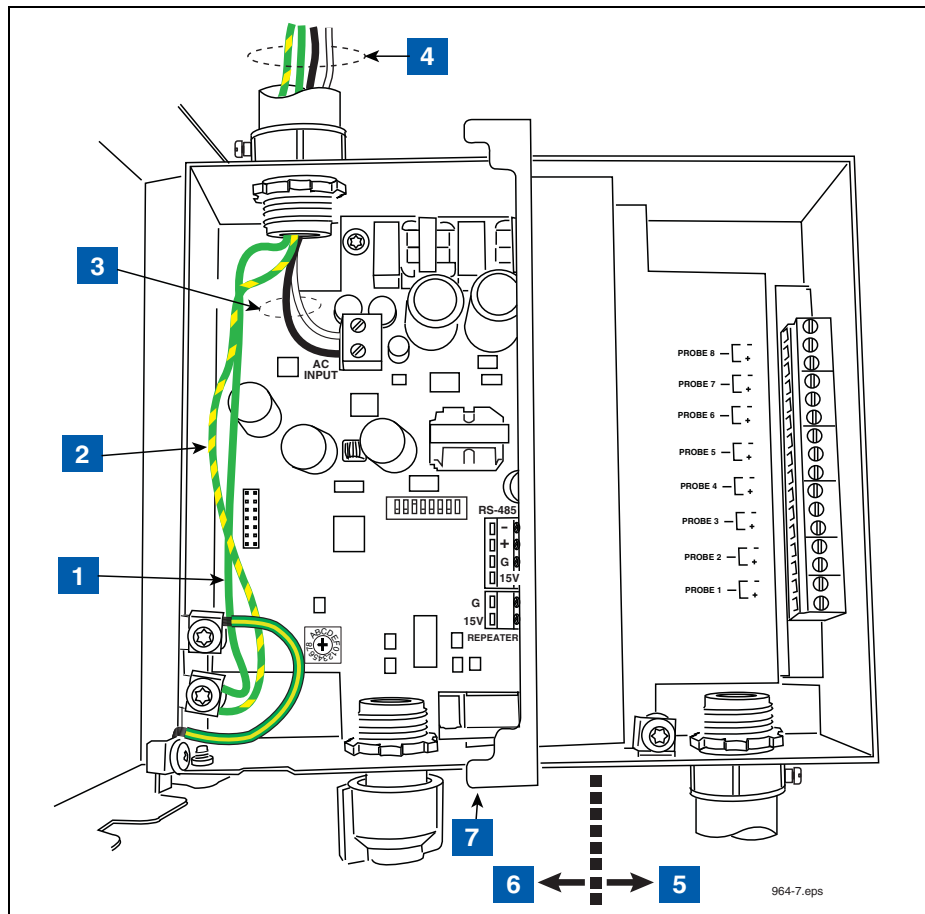
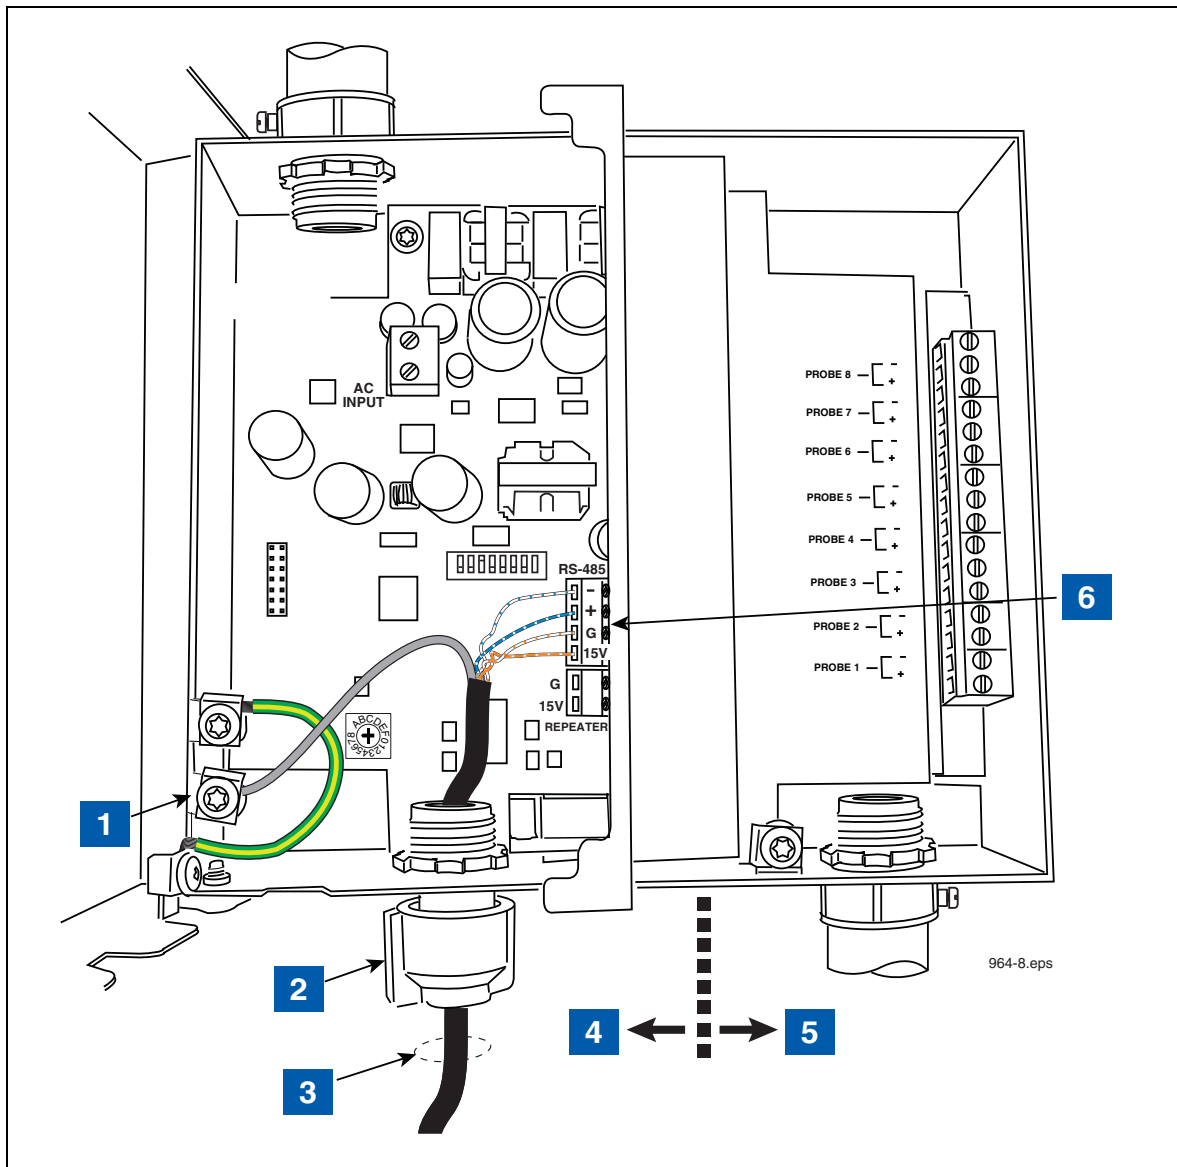
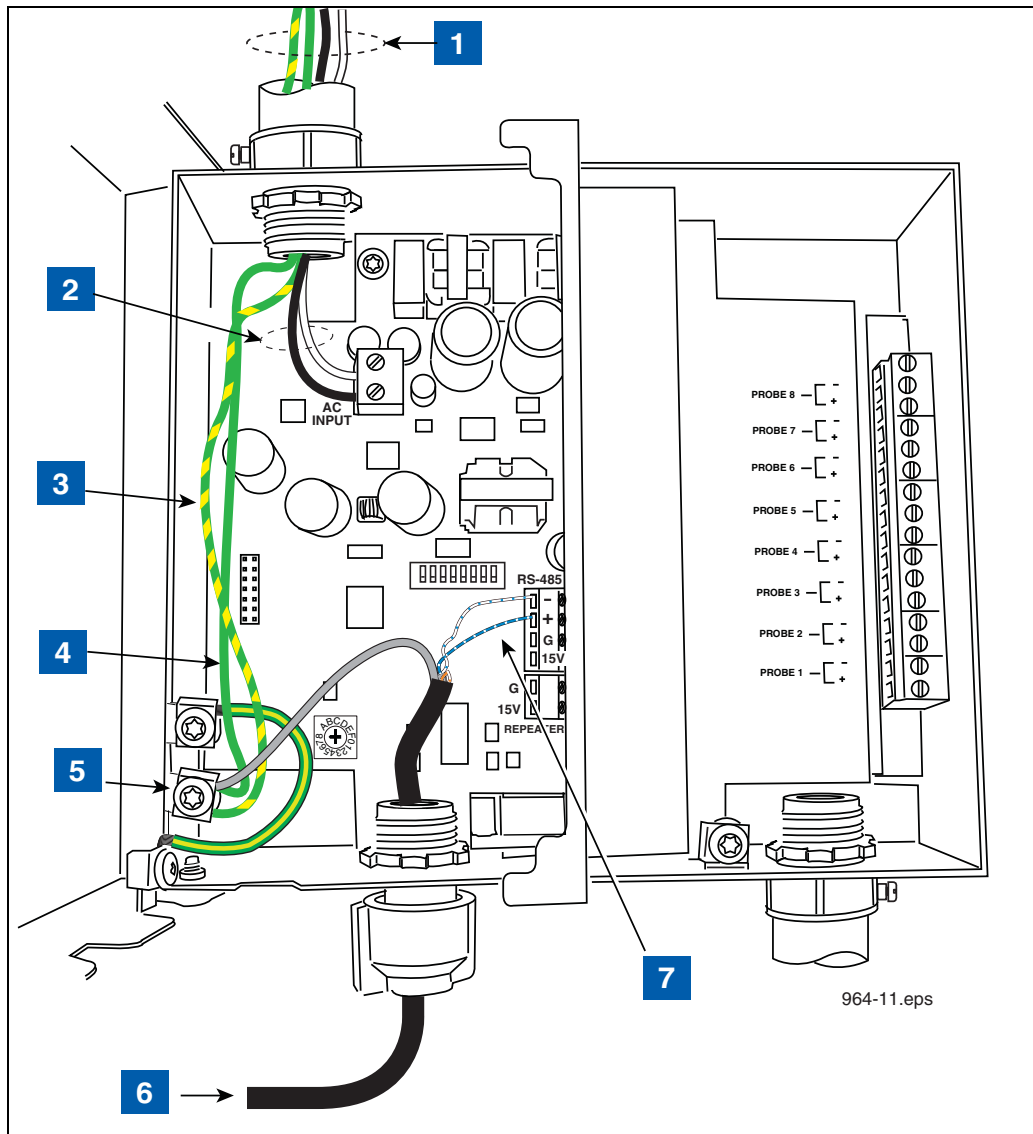
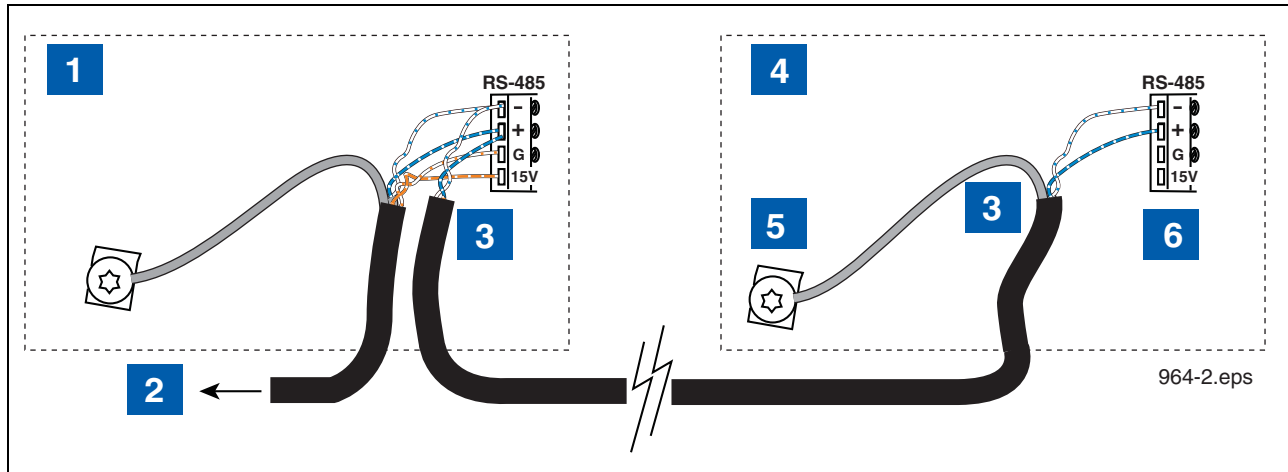

Figure 6. Wiring AC Power To The TLS RF
Figure 7. Wiring Receiver To The TLS RF
Figure 9. Power Connections To A Daisy Chained TLS RFs
Figure 10. RS-485 Cable Connections When Daisy Chaining Two TLS RFs
4. Using a #15 torx driver, open the covers of the TLS RF, Repeater and Receiver. Make a temporary ac power cord with a grounded plug on one end. Connect the ac power cord to the TLS RF's input power terminals and ground terminal (refer to Figure 6 and Figure 7). Connect a necessary length of RS-485 cable from the TLS RF's RS-485 terminals to the Receiver's RS-485 terminals (refer to Figure 23). Connect a necessary length of 2-conductor cable from the Receiver's Repeater terminals to the Repeater's Repeater terminals (refer to Figure 24).
To connect power wiring see Figure 6. To connect Receiver wiring see Figure 7. To daisy chain two TLS RFs, see Figure 9 and Figure 10. To connect TLS RF data output wiring to the TLS console see Figure 6.
**LEGEND FOR NUMBERED BOXES IN Figure 6**
**LEGEND FOR NUMBERED BOXES IN Figure 7**
**LEGEND FOR NUMBERED BOXES IN Figure 9**
| <p>1. POWER WIRING NOTES:</p> <ul style="list-style-type: none"> <li>• Barrier ground must be #12 AWG or larger diameter.</li> <li>• Check to be sure that the electrical resistance - between the unit ground lug and a known good earth ground is less than 1 ohm.</li> <li>• Connect the power supply wires in the power panel to a separate dedicated circuit.</li> <li>• Electrical rating power input - 120 Vac or 240 Vac, 50/60 Hz, 2 A max.</li> <li>• See Figure 2 for actual locations of power conduit knockouts into the unit. Power wiring must enter only in one of these knockouts.</li> </ul> <p>2. AC power input wires (#14 AWG) to AC input terminals.</p> | <p>3. Protective earthing conductor (green and yellow). Attach #12AWG barrier ground wire to ground lug. Ground must be the same as the supply and less than 1.0 ohms to ground.</p> <p>4. Attach chassis ground wire (#14 AWG) to ground lug.</p> <p>5. Connect the shield of the RS-485 cable to the ground lug.</p> <p>6. RS-485 cable from master TLS RF.</p> <p>7. See Figure 10 for connections.</p> |
**LEGEND FOR NUMBERED BOXES IN Figure 10**